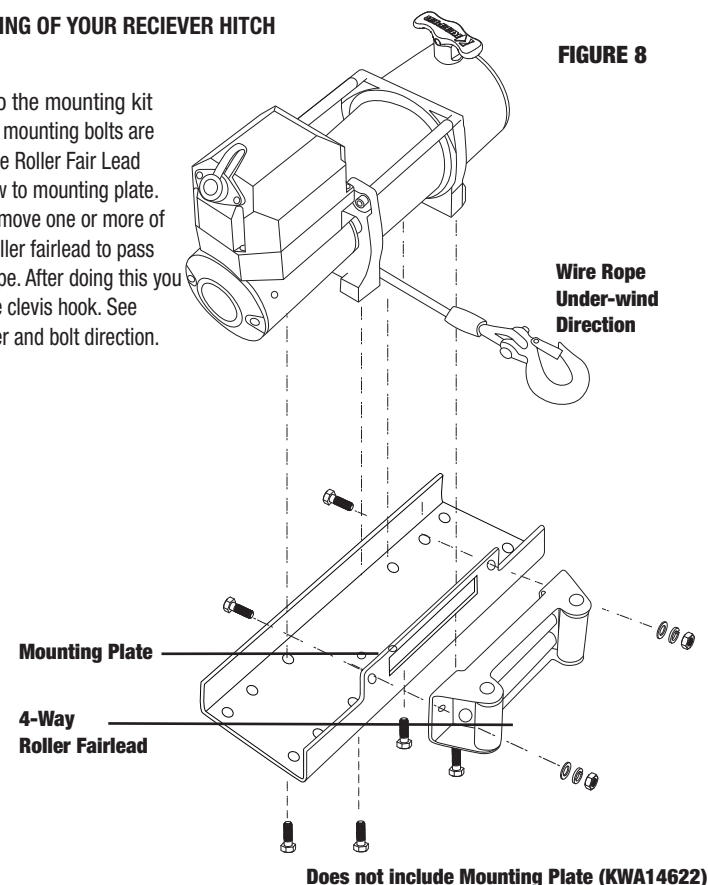

FIGURE 8
This Winch **MUST** be mounted with the wire rope in the under-wind direction (FIGURE 8).
Step 1 Mount the Winch to the mounting kit base plate, proper mounting bolts are supplied. If using the Roller Fair Lead included, install now to mounting plate. You may need to remove one or more of the rollers on the roller fairlead to pass through the wire rope. After doing this you may now attach the clevis hook. See (Figure 8) for order and bolt direction.